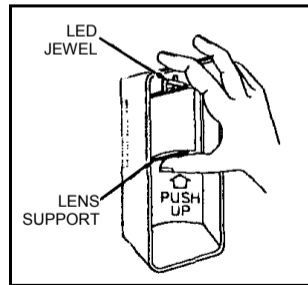

Fig. 3. Removing the lens.
1. Push up on the lower edge of the Lens Support (see Fig. 3) until it is clear of its retainers, then pull out the Lens Support from the bottom. Be careful not to dislodge the LED jewel. **Note:** If the jewel pops out, re-insert it with the small index key positioned at the top. (cont'd)